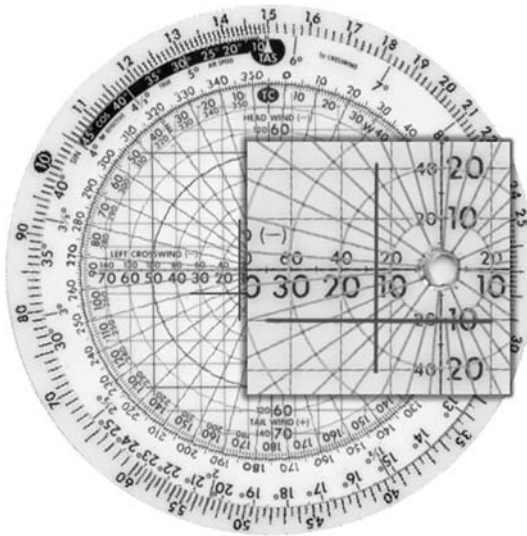

Figure 4.6-9 In-Flight Wind Calculation 6
6. Compare TAS to GS to obtain the HW/TW component ($250 \text{ TAS} - 220 \text{ GS} = 30 \text{ kts}$ HW, which also agrees with the estimate). Draw horizontal line along appropriate value (Figure 4.6-9).